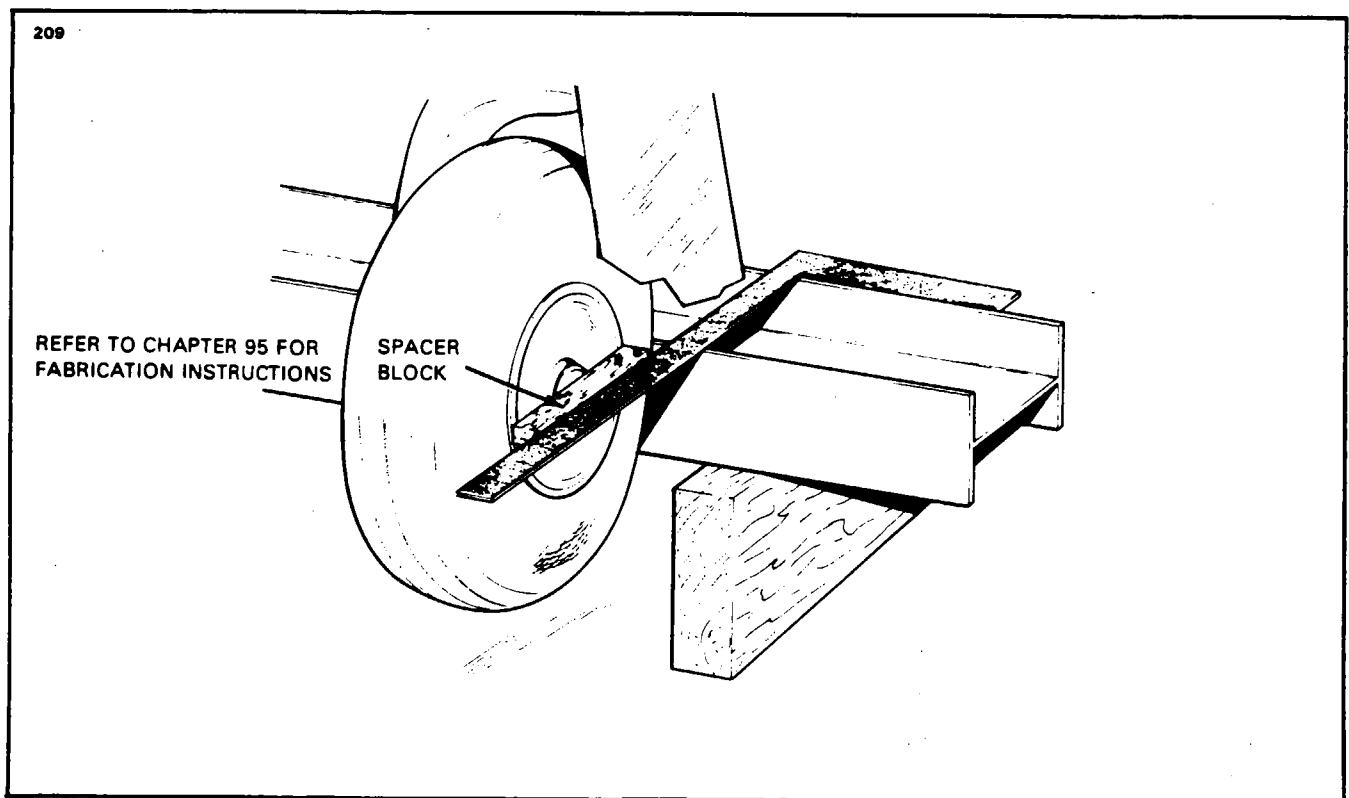

Figure 32-5. Aligning Main Gear
2. Place a spacer block against the wheel rim at the hub line, with the wide end toward the front of the wheel to check and, or adjust the landing gear for proper toe-in of .5 degree. (Refer to Figure 32-5.) Set a square against the straightedge and spacer block and check to see if its outstanding leg bears against the spacer block.